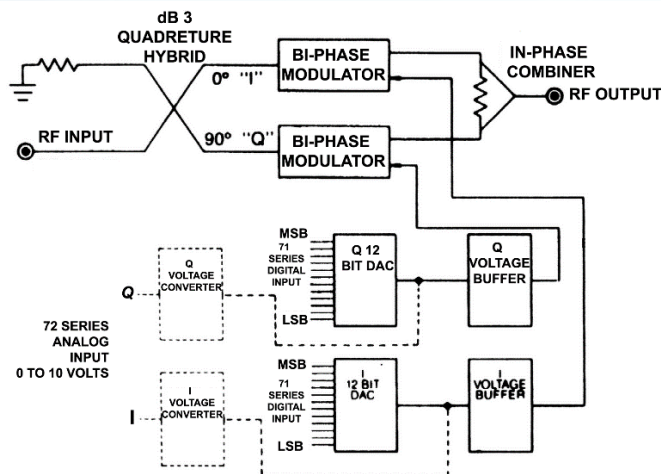
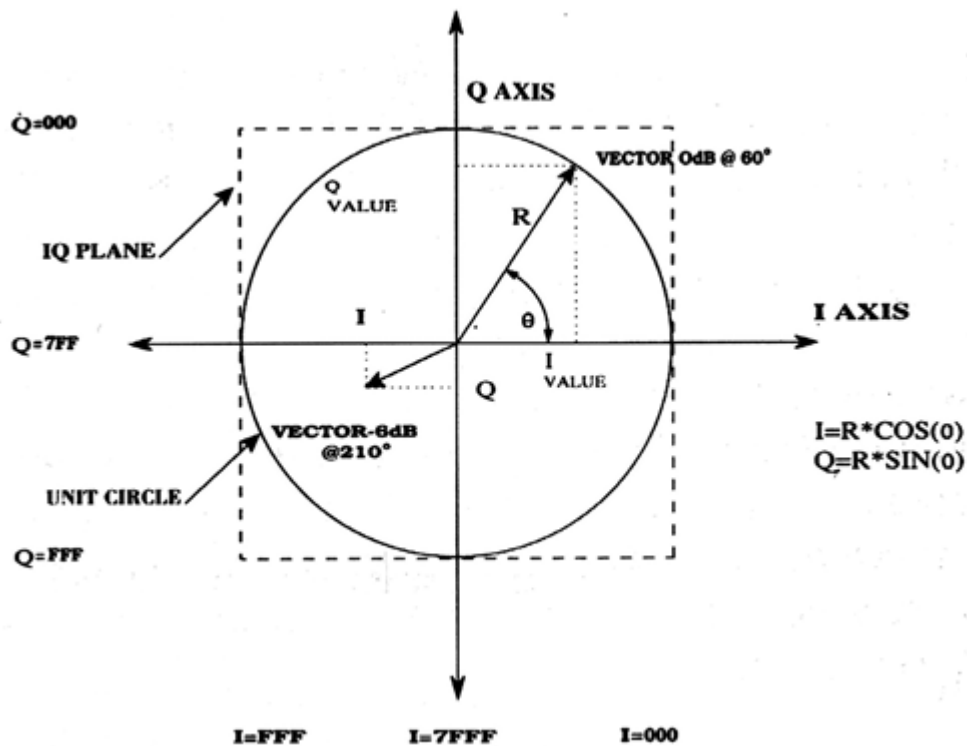

Figure 5: Series 71/71 Block Diagram
Figure 6: I-Q Vector Model
The block diagram of the I-Q vector modulator is shown in Figure 5. An RF signal incident on a 3 dB quadrature hybrid is divided into two equal outputs, with a 90-degree phase difference between them. The in-phase or 0-degree channel is designated as the I channel and the quadrature or 90-degree channel is designated as the Q channel. Each signal passes through a biphase modulator, which selects the 0- or 180-degree state for both the I and the Q paths. This defines the quadrant in which the resultant output signal resides (Figure 6). The attenuator in each path then varies the magnitude of each of the signals, which are combined in phase to yield the resultant vector. This vector will lie anywhere within the bounded area shown in Figure 6. Thus, any signal applied to the I-Q vector modulator can be shifted in phase and adjusted in amplitude by assuming the desired attenuation level = x dB and the desired phase shift = Θ degrees. The normalized output voltage magnitude is then given by:
3. The magnitude of the unit circle is determined by finding the maximum insertion loss at the calibration frequency in each of the four states in table 2 above. Since by nature the I-Q plane is a square and not a circle (see figure 6), the maximum insertion loss will occur at one of these four states. Once the maximum insertion loss is determined, the I or Q values of the other three states in table 2 are adjusted to meet the same maximum insertion loss level. Note that only either I or Q should be adjusted to increase insertion loss at any state, not both. The I or Q value that is initially set to 7FF (which is approximately the center of the IQ plane) is not varied during this part of the calibration since the amplitude of the unit circle is not affected by small changes in the control input.